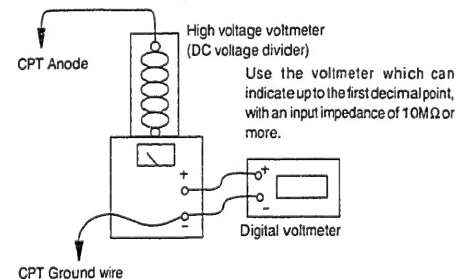

Fig. 1
1. Connect the high voltage voltmeter between the CPT anode terminal (anode cap) and ground as shown in Figure 1.